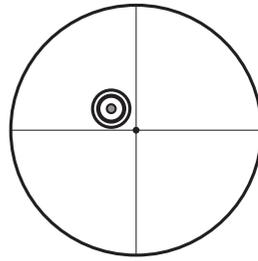

Figure C-10
5. In this process the center of the reflection of the collimating eyepiece has been shifted off center as seen in Figure C-10. It then is necessary to rotate and tilt the secondary mirror so that the center of the reflection of the collimating eyepiece is centered on the crosshairs. In figure C-10 the secondary is rotated so that the reflection is on the crosshair and in figure C-11 the secondary is tilted so that the center reflection of the collimating eyepiece is centered in on the crosshairs by adjusting screw A.